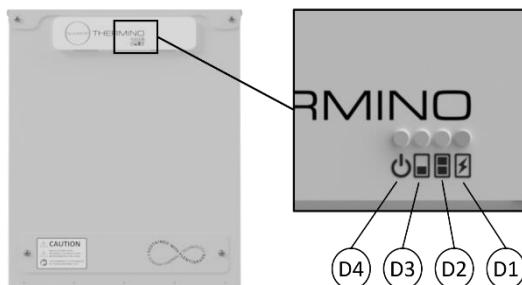

Figure 13 – Thermino ePlus Heat Battery LED operation
7. Check the front of the Heat Battery to ensure that the "power" and "heating element" LEDs are lit (see Figure 13 & Table 9).